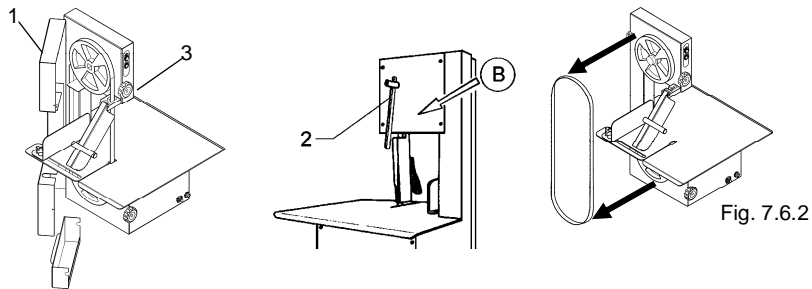

Fig. 7.6.2
7.6.2 Replacing the blade (Fig. 7.6.2)
- Release knob "2" as indicated in fig. 7.6.2 arrow "B".
- Stretch the blade rotating the knob in position "A" (Fig. 7.6.2).